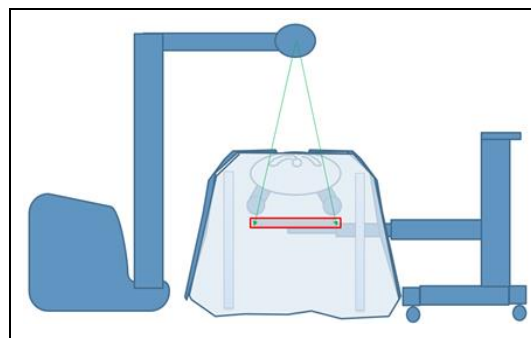

Figure 18
- Positioning here under surgical Table (see Figure 18).